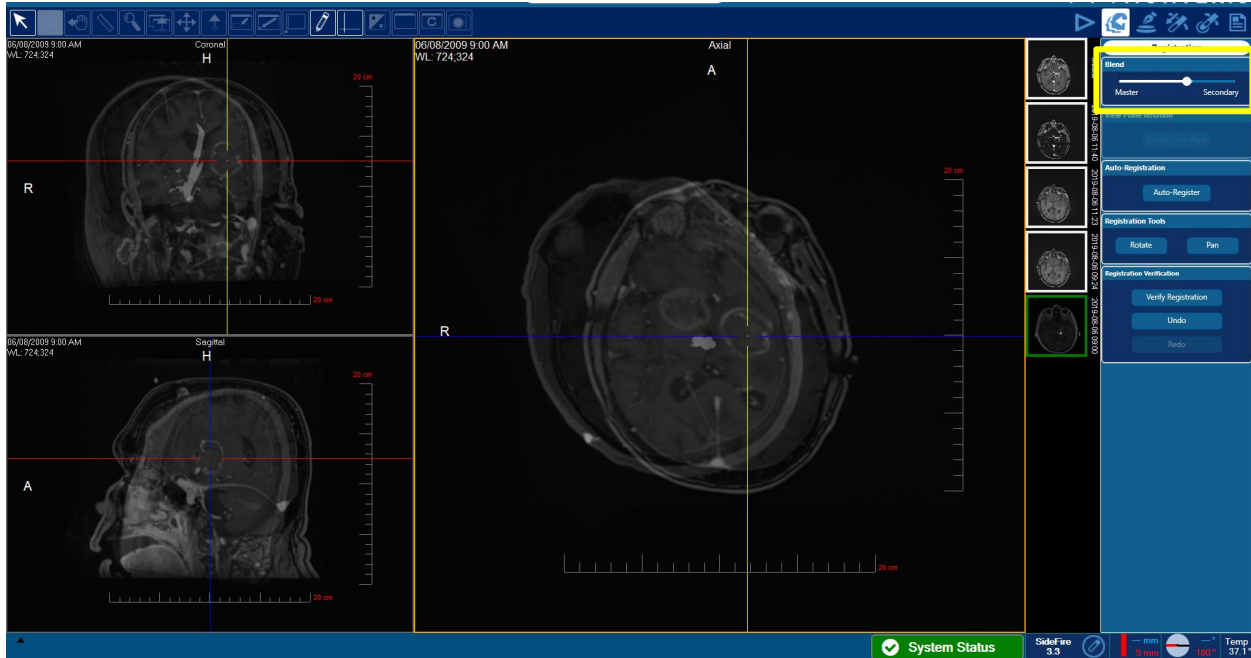

Figure 8.1.24: Using the *Blend* tool to assess registration accuracy
- Use the *Blend* slider bar in the right menu bar to blend the imported data set into or out of the Master series (yellow box Figure 8.1.24)